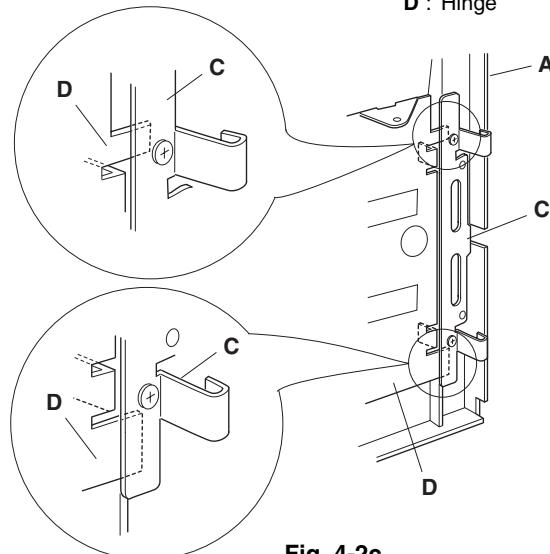

Fig. 4-2c
- When reinstalling the disc cover, assemble the hinge (H) of R case and the cover lock plate (C) of disc cover as shown in Fig. 4-2c.